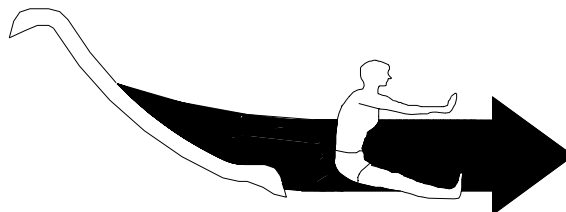

FIG. 5
17. Don't use any other sliding technique, other than the following: see FIG. 5.
In the sitting slide position, face forward on the slide holding the legs and arms straight out with the palms of your hands tilted upward as shown in **FIG. 5**.